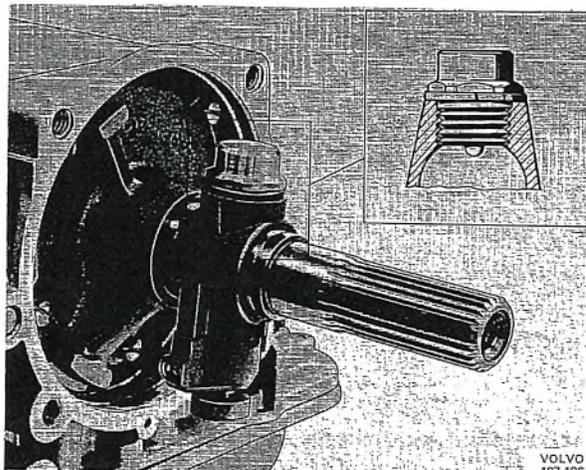

Fig. 4-93. Governor and driven shaft
5. Push the governor onto the shaft as shown in Fig. 4-93. Make sure that the bolt enters the recess in the shaft. Tighten the bolt to a torque of 20–25 Nm (15–18 lbft). This torque must not be exceeded.